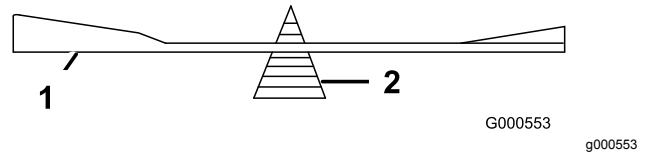

Figure 108
2. Check the balance of the blade by putting it on a blade balancer (Figure 108).